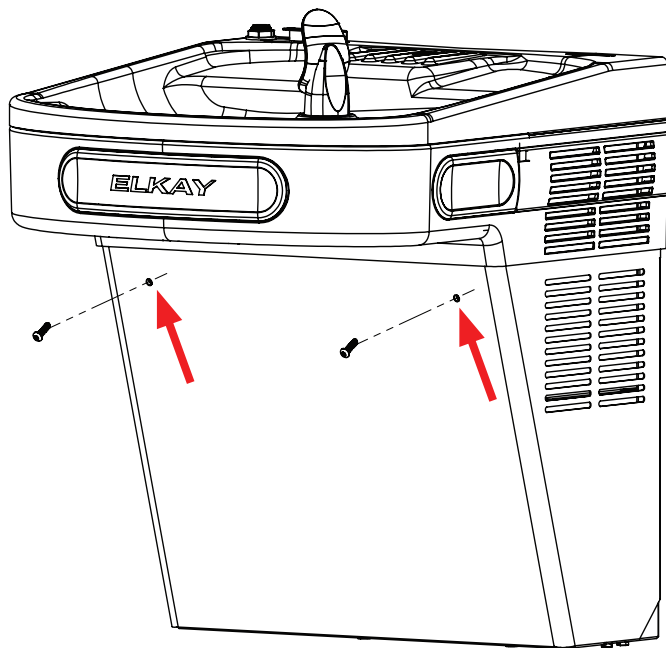

Fig. 7
- 1) Remove lower cover on refrigerated unit by removing (2) screws (see Fig 7, Pg. 6) and rotating the front panel down, refer Fig B(i) to B(iv), Pg. 3 for wrapper removing instructions.